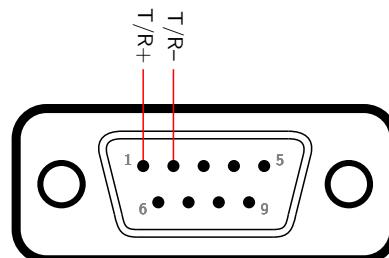

Figure 2.3: DB-9 female connector (solder side).2
1. Solder the pins on a female DB-9 connector as shown in Figure 2.3. Note that the pin numbers shown in the diagram are for the solder side of the connector.